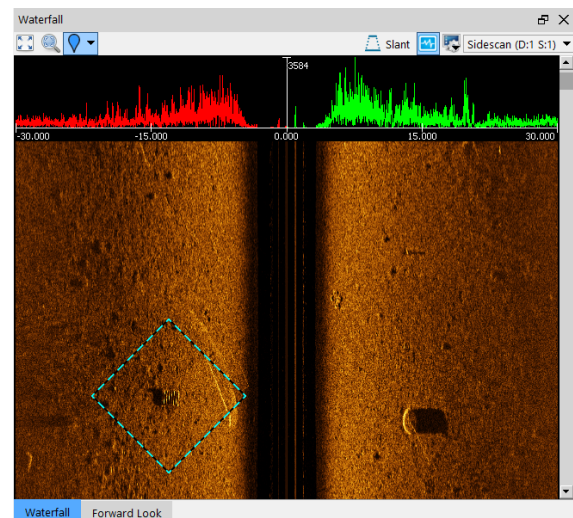

Figure 83. Marking a contact in Waterfall
- A blue dotted diamond appears around the marked contact in the waterfall (Figure 83). The dotted green box stays at the contact position and reappears in the waterfall when the SLS covers the target again.